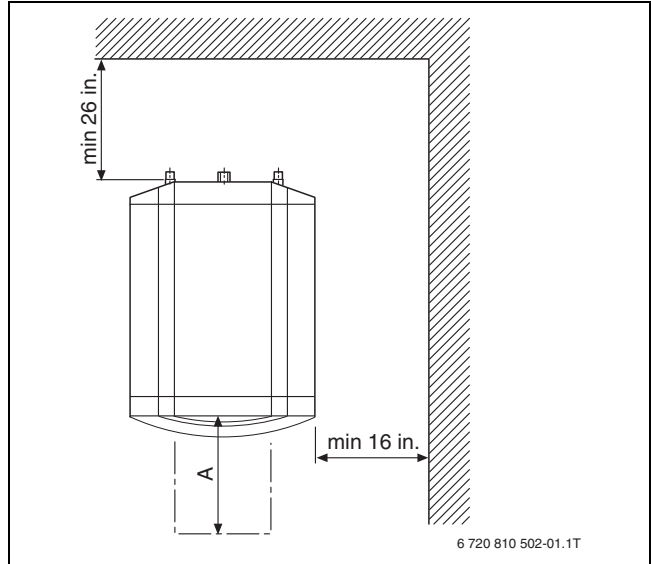

Fig. 6 Recommended minimum wall clearances (illustrative)
- ▶ Observe minimum wall clearances at installation location (→ Fig. 6).